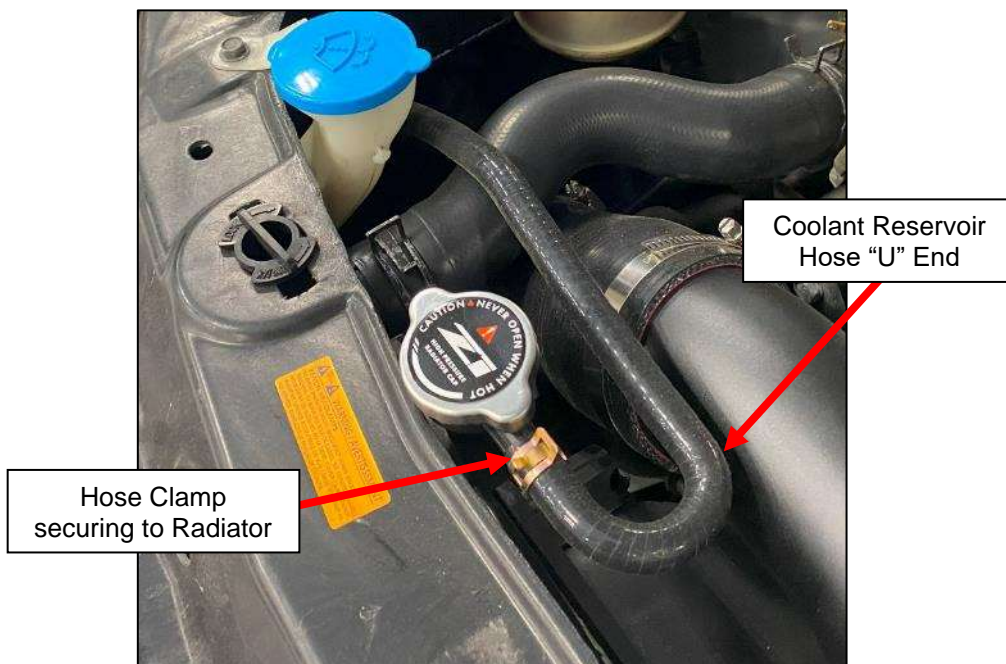

Figure 73
20. Locate the G35 Coolant Reservoir Hose (#84) and (1) one Hose Clamp (#31). Install the Hose Clamp onto the "U" shaped end of the Coolant Reservoir Hose.
21. Install the "U" shaped end of the Coolant Reservoir Hose onto the port from the Radiator. Secure with the Hose Clamp. *Figure 73*.